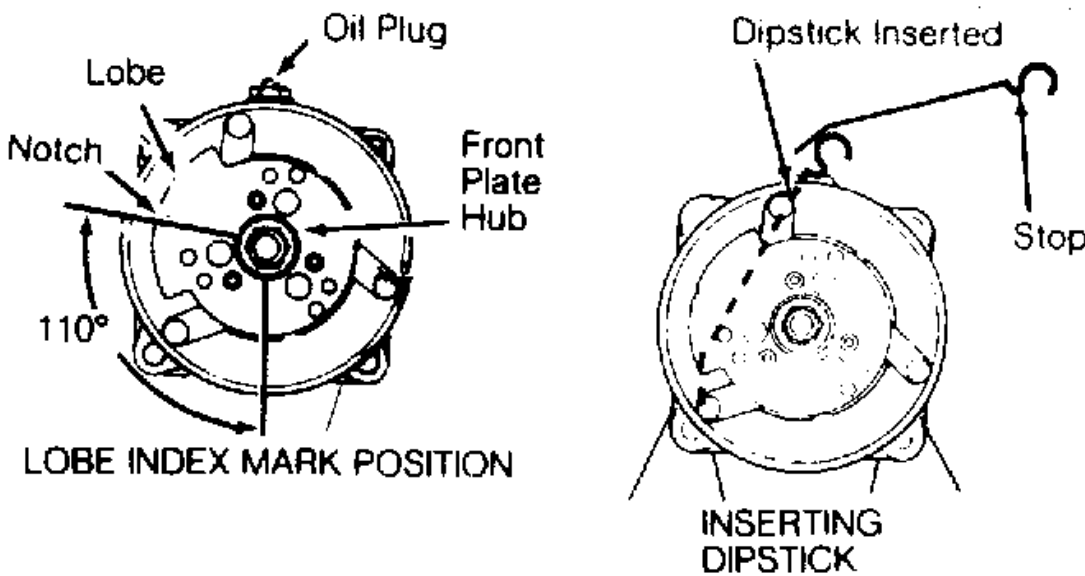

Fig. 1: Sanden 5-Cylinder Oil Level Checking
1. Discharge system. Remove compressor belt and loosen mounting bolts. Rotate compressor in brackets until filler plug is at top. Clean area around filler plug and remove plug slowly. Rotate front hub plate so notch in lobe is 110 degrees from the bottom. This rotates ball end of top piston to align with oil fill port and allows clearance for dipstick. See Fig. 1 .